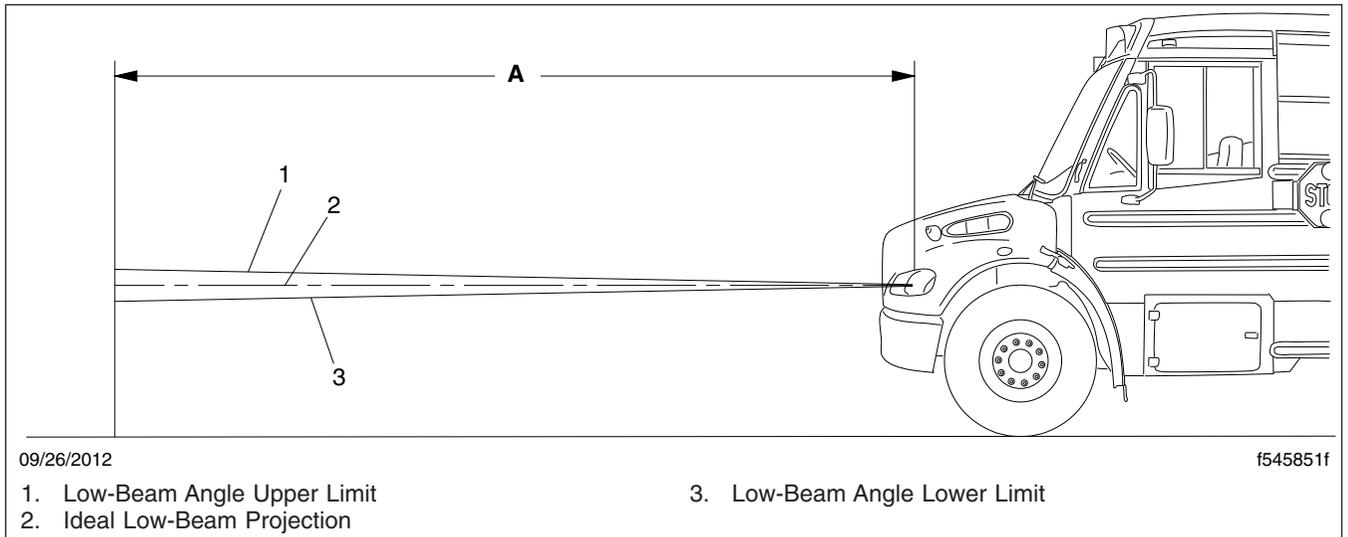

Fig. 15.3, Vertical Low-Beam Headlight Variation Limits
5. Identify the center of each beam projection by marking the area of brightest intensity on the wall. The area of brightest intensity should fall on or very near the marks made during step 3. See Fig. 15.3.